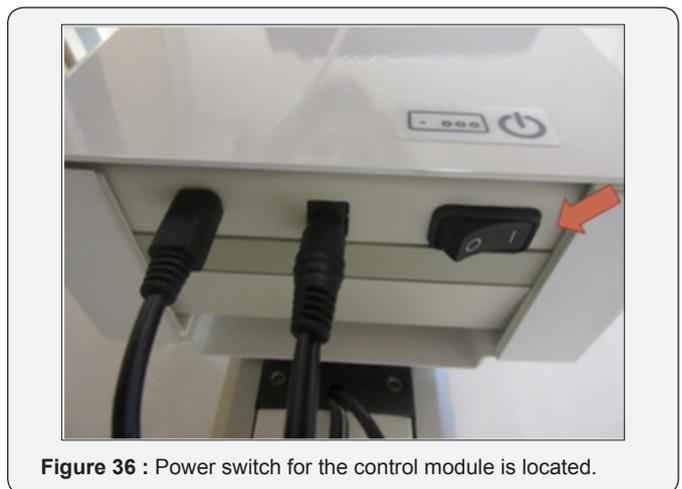

Figure 36 : Power switch for the control module is located.
- v. This is also where the power switch for the control module is located (Figure 36).